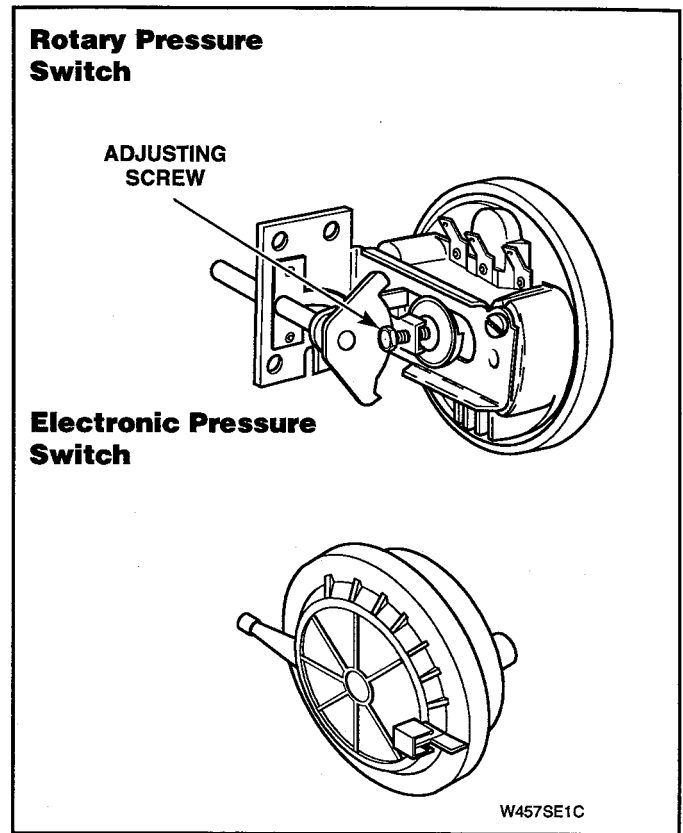

Figure 6-2
2. PRESSURE SWITCH (Refer to Figure 6-2)